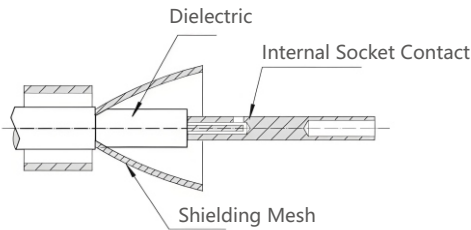

Figure 2.3
③Spread the shielding layer outward, and strip the dielectric part of the cable.
- ④As shown in Figure 2.3, pass the central conductor through the socket contact. The cable's central conductor must be visible through the observation hole on the socket contact, and the socket must be pressed against the rear insulator.